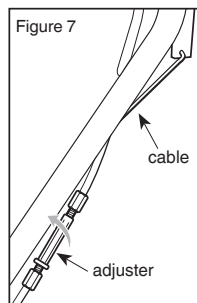

Figure 7
- Slacken the bottom nut and then tighten the top nut on the adjuster to take up any excess slack in the cable. The cable should have about 12mm of play on it (Figure 7).